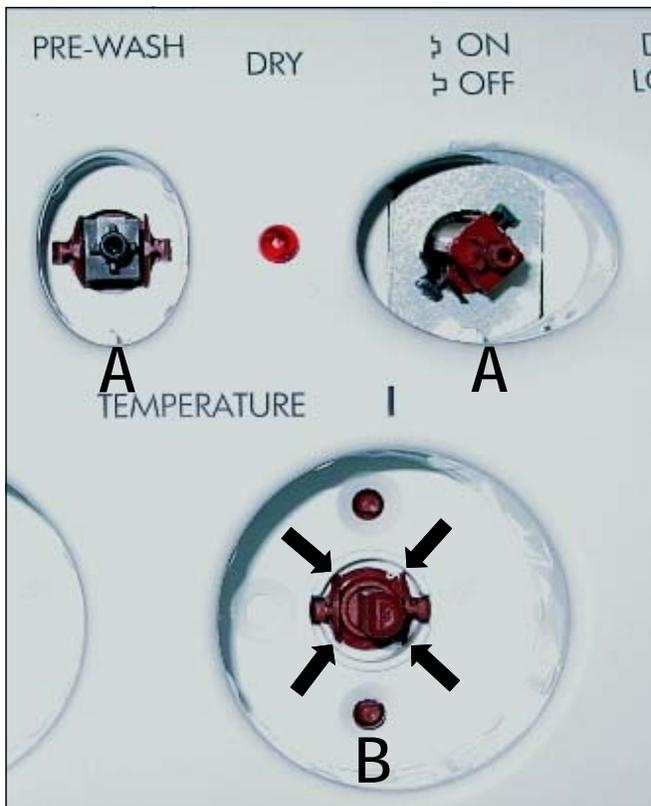

Fig. 4-3
- To remove either the Switches (A) or the Potentiometers (B), first remove the Button and/or Knob. The Switch and Potentiometers are held in place by four (4) positioning tabs (Fig. 4-3). Using a small screwdriver press the tabs inward then slide the Switch or Potentiometer out from the rear of the Control Panel.